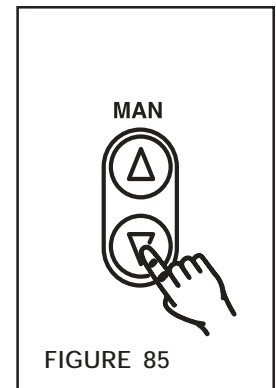

FIGURE 85
5. Press the **MANual Key** to increase or decrease the number of illuminated Output Level Indicators to match what was observed in Step 2 (See Figure 85).